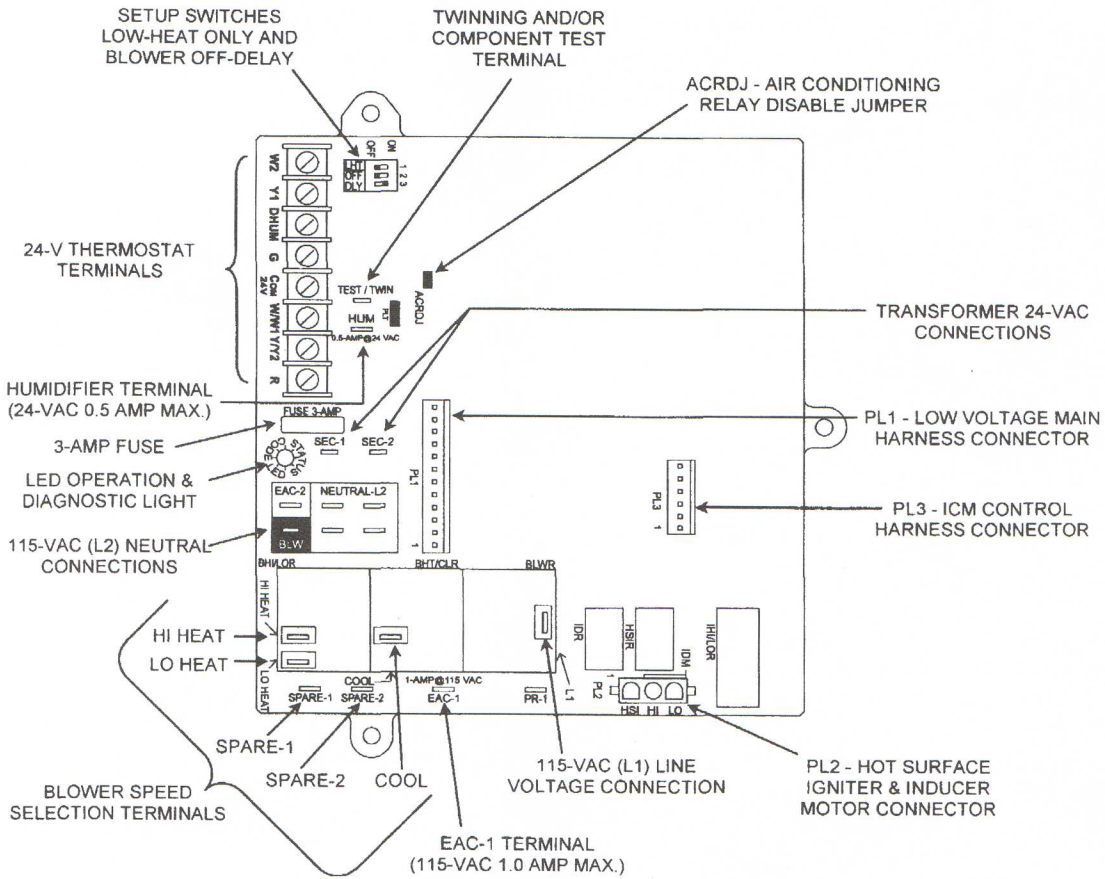

Figure 2 – New Style Furnace Control Board
- a. The 12-pin connector connects to PL1 on the furnace control board, (see Fig. 2 & 3).
- b. The 3-pin connector which has 2 black wires and 1 red wire connects to PL2 on the furnace control board, (see Fig. 2 & 3).
- c. The 2 white wires connect to the 115-volt Neutral spade connections, located in front of PL1 on the new furnace control board (see Fig. 2 & 3).
5. Connect the transformer to the new furnace control board, (see Fig. 2).
6. Connect black wire from furnace auxiliary junction box to L1 on the new furnace control board. L1 is located on the blower enable relay. (see Fig. 2).
7. Connect white wire from furnace auxiliary junction box to one of the 115-volt Neutral spade connections located in front of PL1. (see Fig. 2).
8. Connect the blower motor leads to the new furnace control board, (see Fig. 2).
11. Set blower off delay. **Blower Off Delay Dip Switches** are located on the top-center portion of board. (See Fig. 2) It is factory set at 120 seconds. Use the table below to select a different blower off delay.